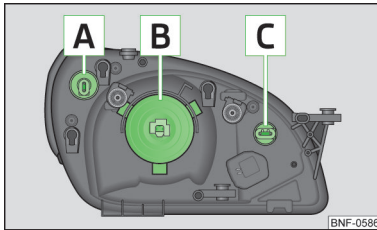
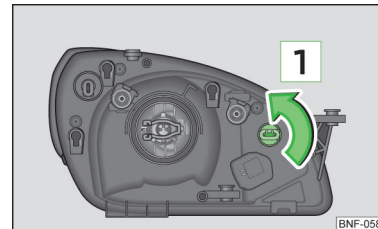
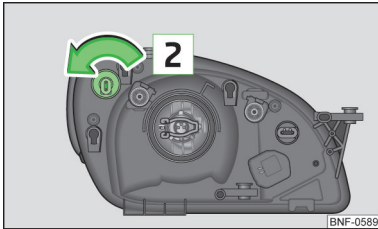

Fig. 127
Fig. 129
Fig. 130
Bulb arrangement » Fig. 127
- Remove the connector on the bulb **B** » Fig. 127 on page 139.
- Turn the plug with bulb **C** » Fig. 127 on page 139 anti-clockwise to the stop and in the direction of arrow **1** » Fig. 129 remove it.
- Turn the plug with bulb **A** » Fig. 127 on page 139 anti-clockwise to the stop in the direction of arrow **2** » Fig. 130 and remove it.